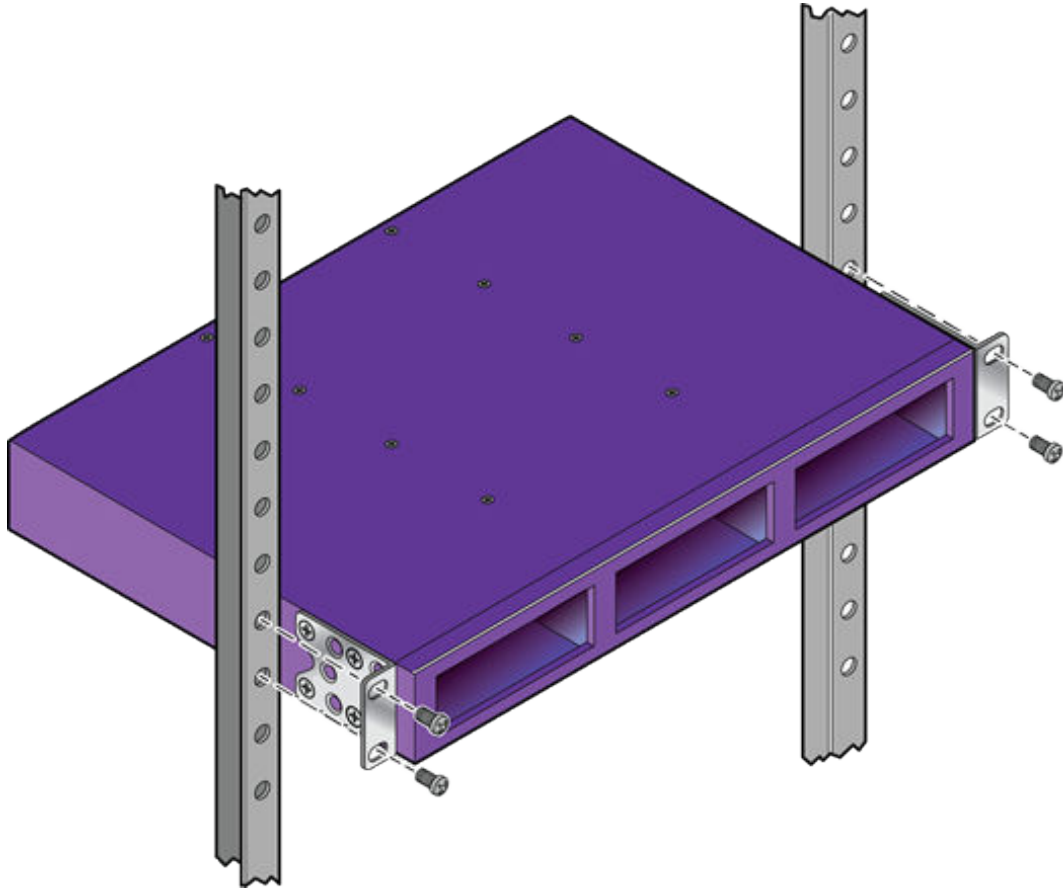

Figure 232: VX-RPS-1000 Shelf Mounted in a Rack
2. Attach the shelf to the rack, using the screws provided, as shown in Figure 232.